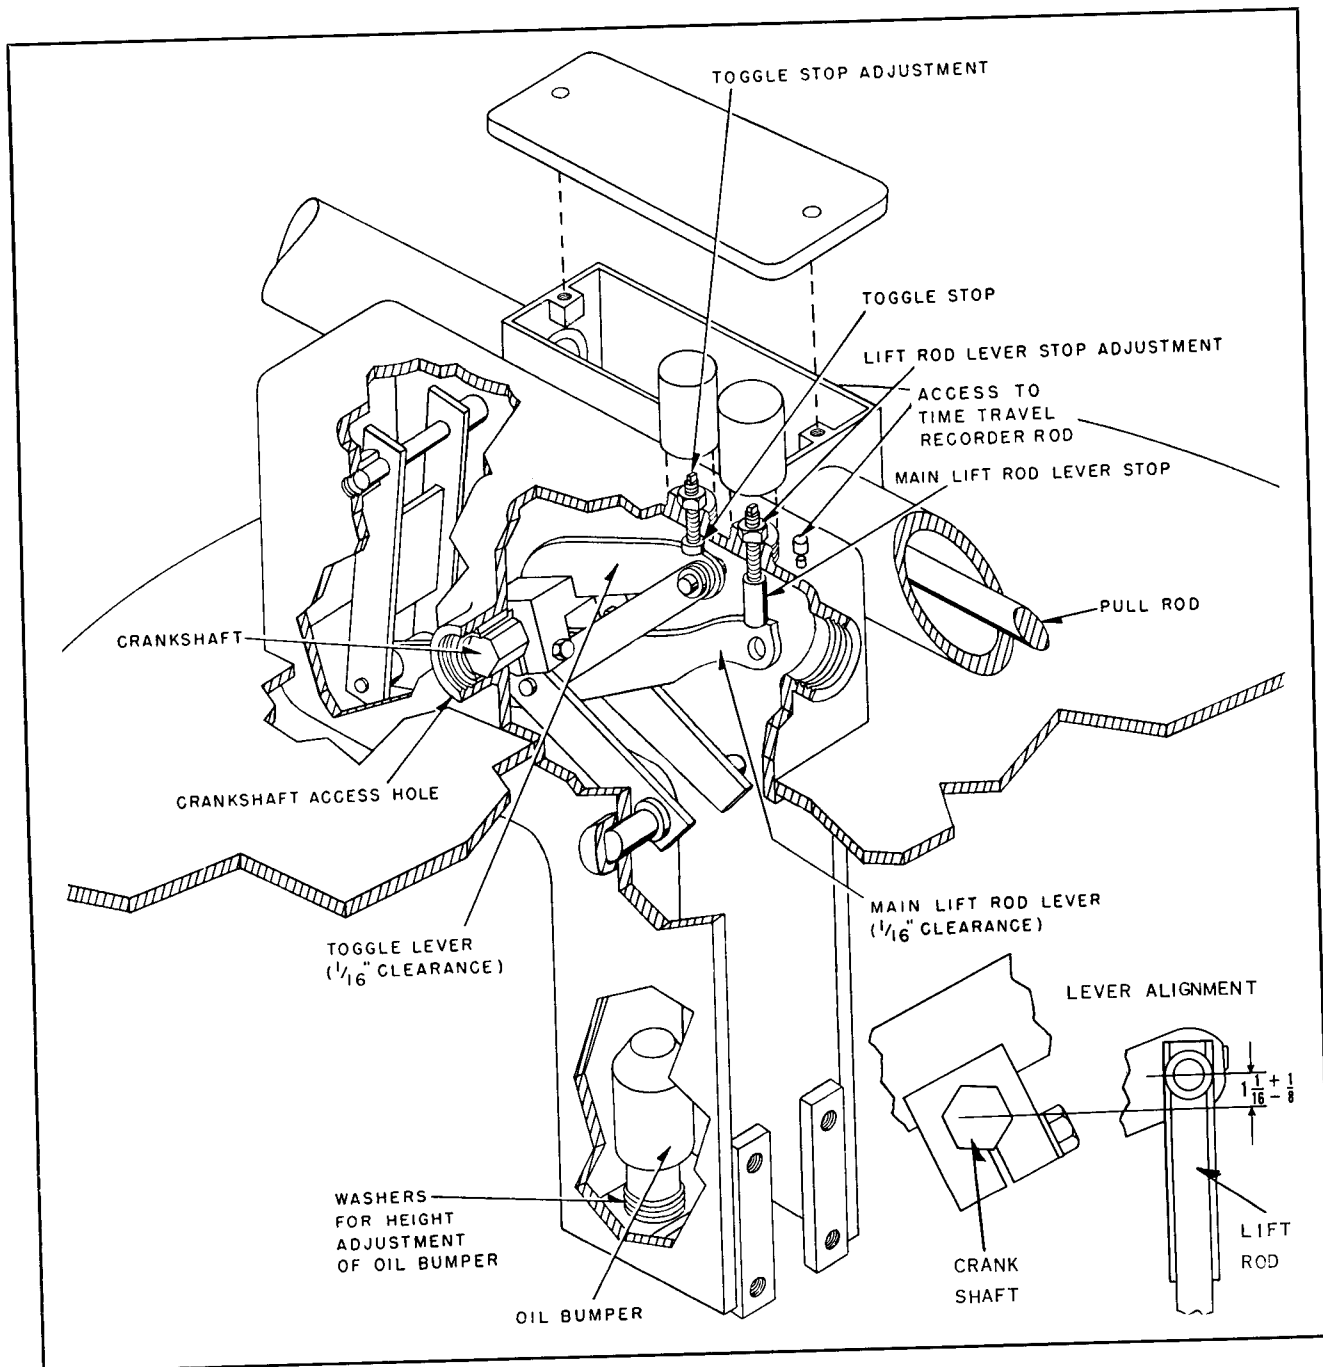

FIG. 5. Section View of Pole Unit Lever Mechanism
have been set at  $\frac{1}{16}$ " by adjusting the lengths of the horizontal pull rods with breaker closed and just latched (no overtravel). The settings were made with normal accelerating spring load and contact loading, so that stop clearances should check closely. These clearances may be checked by removing pipe plugs inside of lever box. (See Fig. 5.) Close manually to check stops.
If stop clearances are off various amounts, adjustments should be made starting with No. 1 pole to get  $\frac{1}{16}$ " clearance at all lift rod and toggle stops. Refer to Figs. 5 and 6.
5. Open the breaker slowly by hand and check to see that the oil bumpers in all poles are struck simultaneously. The height of the oil bumpers may be adjusted by adding or removing washers as indicated in Fig. 5, page 11.